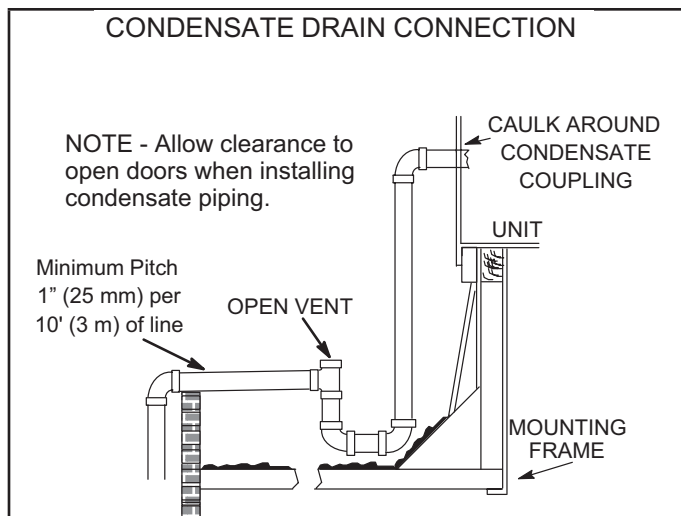

FIGURE 3
N.P.T. drain coupling provided on unit. A trap must be installed between drain connection and an open vent for proper condensate removal. See FIGURE 3. It is sometimes acceptable to drain condensate onto the roof or grade; however, a tee should be fitted to the trap to direct condensate downward. The condensate line must be vented. Check local codes concerning condensate disposal. Refer to page 4 through page 6 for condensate drain location.